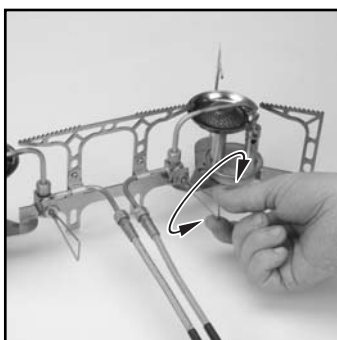

FIG. 26
- Turn flame adjuster back and forth several times to clean generator tip (Fig. 26).
- After 60 seconds, pump an additional 30 strokes. Flame may be adjusted to desired heat with **FLAME ADJUSTER**. Periodically turn flame adjuster back and forth several times to clean generator tip (Fig. 26).